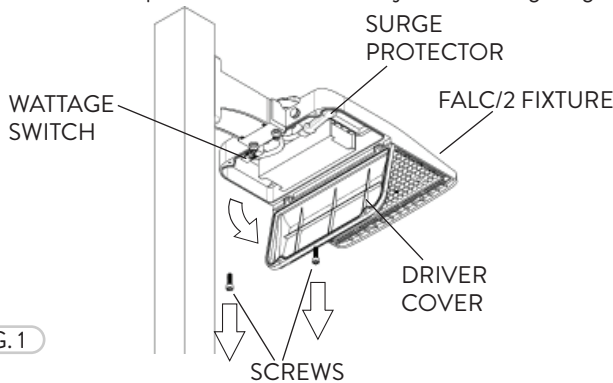

FIG. 1
① The Wattage can be adjusted with the Wattage Switch located inside of the FALC/2 fixture. The FALC/2-150 can be adjusted to 80/100/120/150W, the FALC/2-240 to 170/200/220/240W, and the FALC/2-310 to 240/260/280/310W. Remove the Driver Cover Screws (2) and open the Driver Cover to adjust the Wattage (Fig. 1).